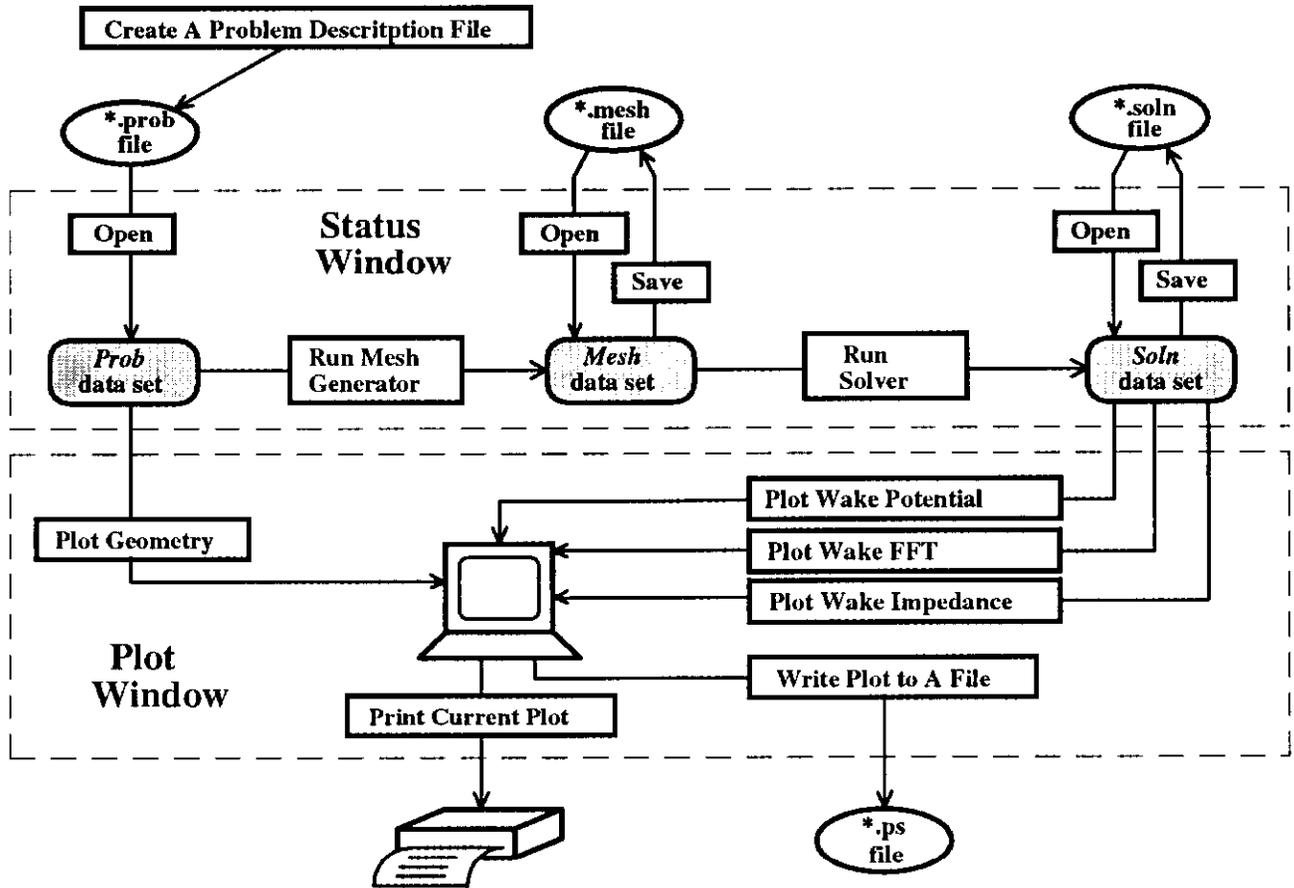

Figure 1. Program Control Flow Diagram
The flow of the program control is illustrated in Figure 1. Producing wakefield data once a problem description file has been created is a three step process. Each of these steps produce a set of data. Opening a problem description file produces *Prob* data. Running the Mesh
Generator (MG) on *Prob* data produces *Mesh* data. Running the Solver on *Mesh* data produces *Soln* data. When data has been produced it is said to be "loaded". The three shaded boxes in Figure 1 represent the three loaded data sets, *Prob*, *Mesh* and *Soln*. Notice that *Prob* data can only be loaded by opening a *Prob* data file. *Mesh* and *Soln* data, on the other hand, can be loaded by running the MG or Solver, respectively, or by opening a previously saved data file. Rectangles represent control options found on menu bars. Ellipses represent files on disk.
Figure 1 shows that Xwake's controls are divided between two main windows, the Status Window and the Plot Window. Each has its own display area and controls menu bar. With the Status Window you control and monitor the loading and saving of data sets in the process of arriving at wakefield solutions. With the Plot Window you view the geometry and wakefield results, having the ability to obtain hardcopies of the plots.